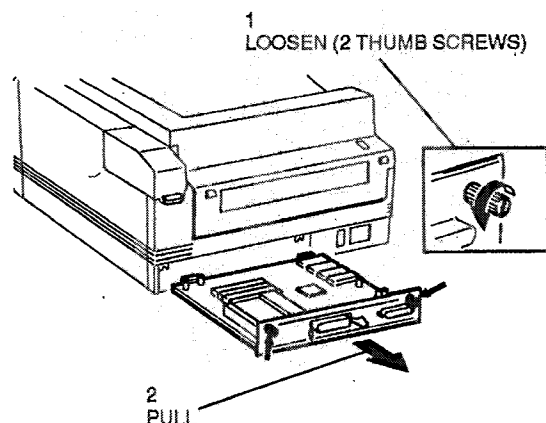

Figure 1. ESS controller PWBA removal
4. (Figure 1) Remove the ESS controller PWBA.